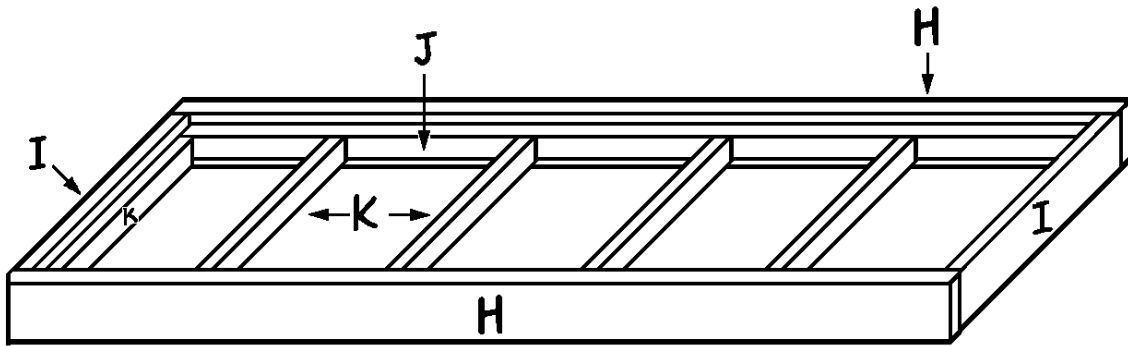

Figure 5
- Cut two long frames (H) from 1 x 4 pine, each 72' long.
- Cut two short frames (I) from 1 x 4 pine, each 21' long.
- Place the two long frames (H) on a level surface, parallel to each other, on edge, and 21" apart. Glue the two short frames (I) between the ends of the long frames, as shown in *Figure 5*. Then insert 1-1/4" screws through the long frames (H) and into the ends of the short frames (I), using two screws at each joint.
- Cut two long lounge supports (J), each 70-1/2", from 1 x 3 pine.